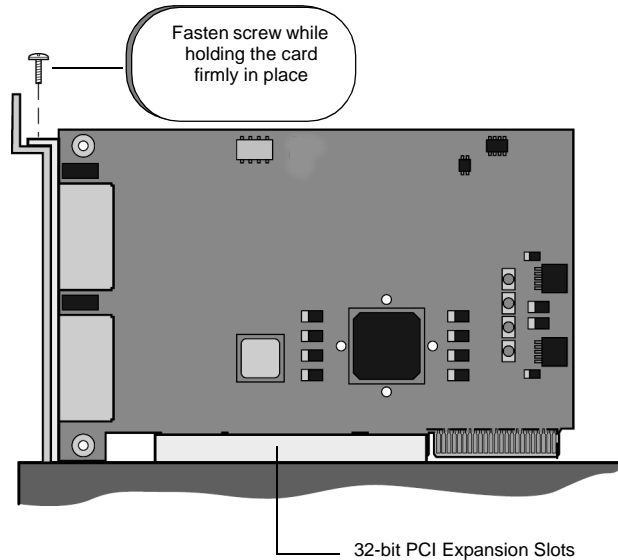
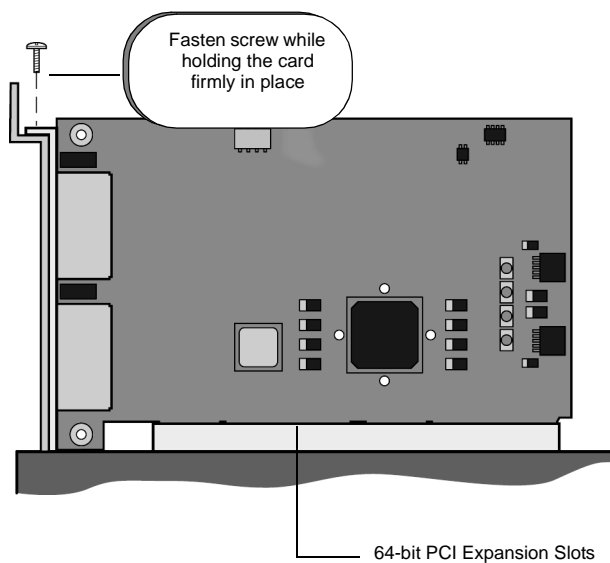

FIGURE 22. Securing the PCI-SB Card in 32-bit Slot
FIGURE 23. Securing the PCI-SB Card in 64-bit Slot
4. Make sure the card's bus connector is pressed in until no gold is visible and the card is seated firmly in the expansion slot, as shown in Figure 22 and Figure 23. Then, secure the card in place by fastening a single screw to the fastener bracket while holding the card in place.